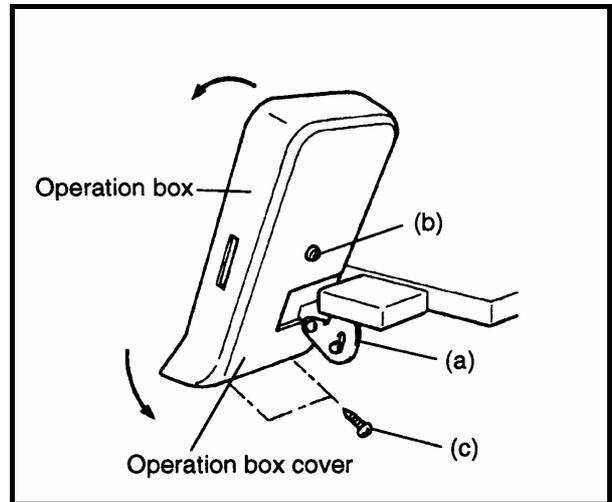

FIG.1
- (2) Remove retaining screw (b) and two retaining screws (c) and the operation box cover (Fig.1).
- (3) Mount the operation box cover with retaining screw (b) and two retaining screws (c) (Fig.1).
- (4) Rotate the operation box to set it at the desired angle for easy operation and secure it with retaining screw (a) (Fig.1).